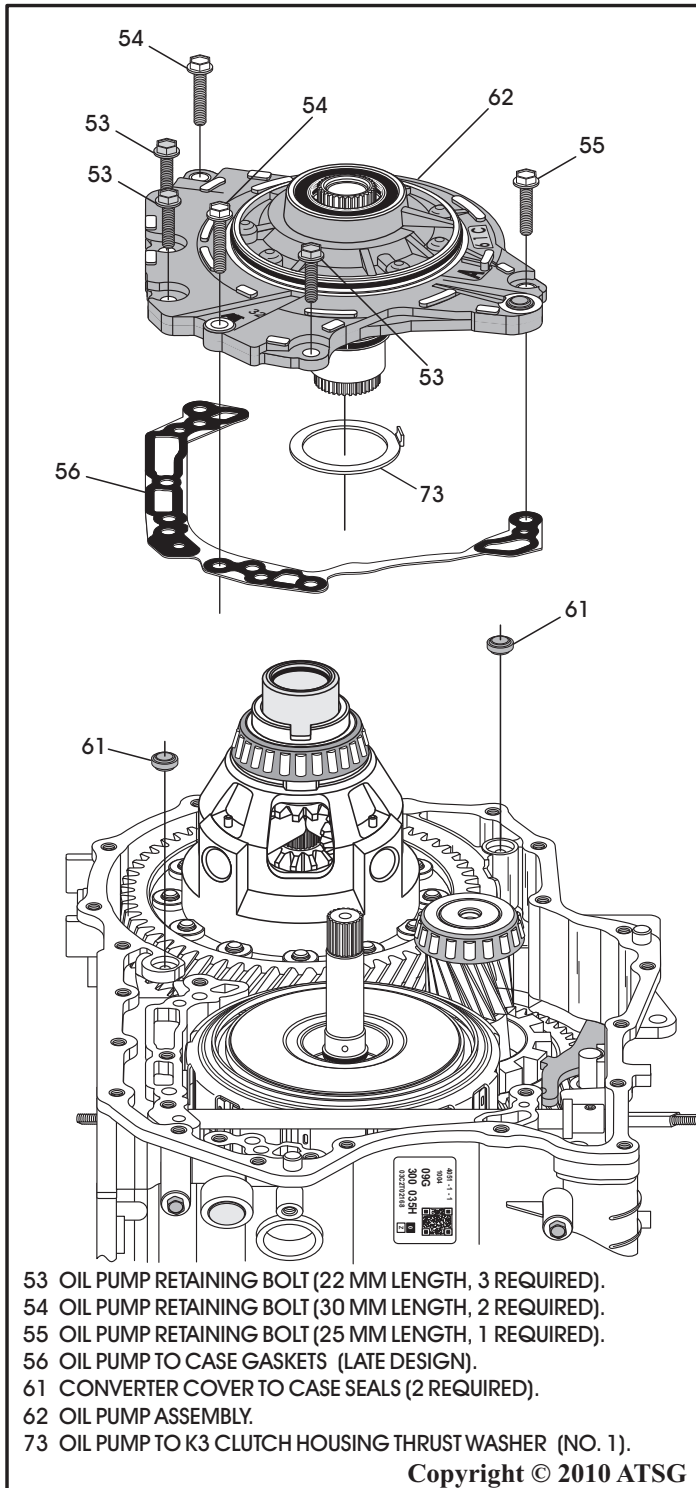

Figure 190
- 56. Install two new case to converter cover seals in the case pockets, as shown in Figure 190, and retain with small amount of Trans-Jel®.
- 57. Install the oil pump and gasket assembly, as shown in Figure 190.
- 58. Install the 6 oil pump retaining bolts, as shown in Figure 190.